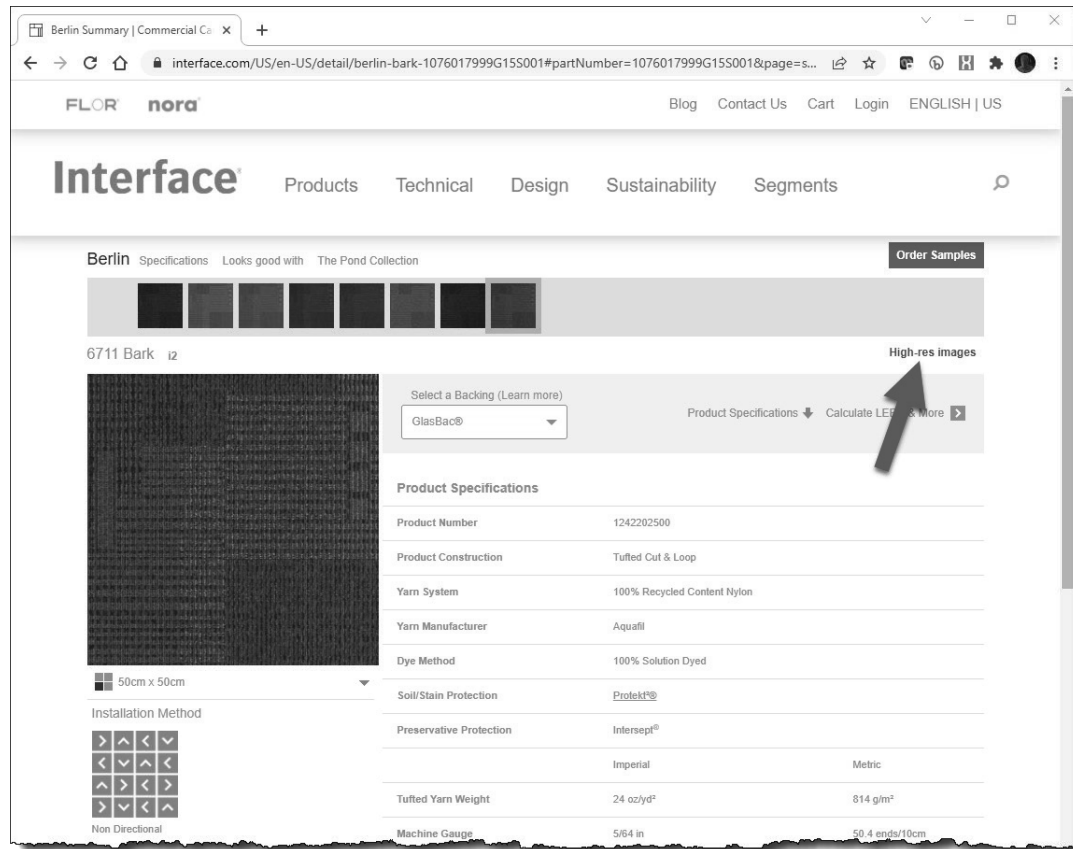

FIGURE 4-3.6 Interface Flor website - specific product page
You now have access to all the information you need to define the Revit *Material* (Figure 4-3.6).
15. Near the top of the screen, click **High-res Images** (Figure 4-3.6).